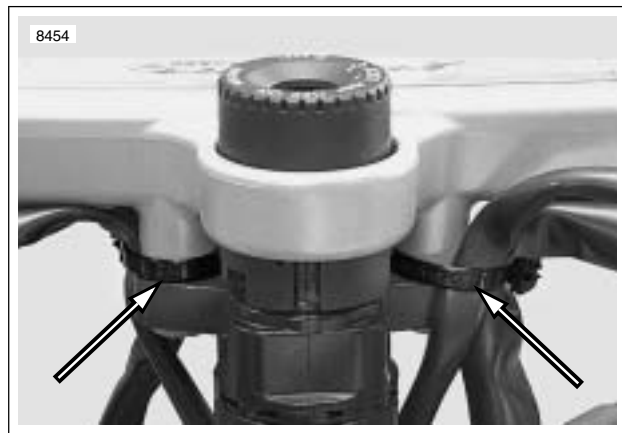
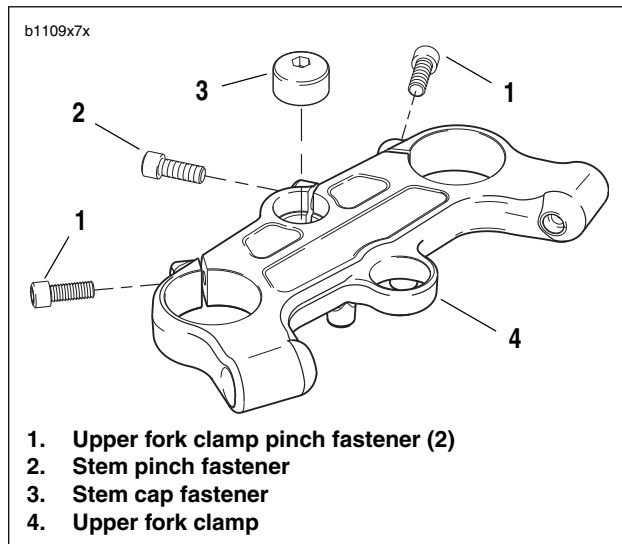
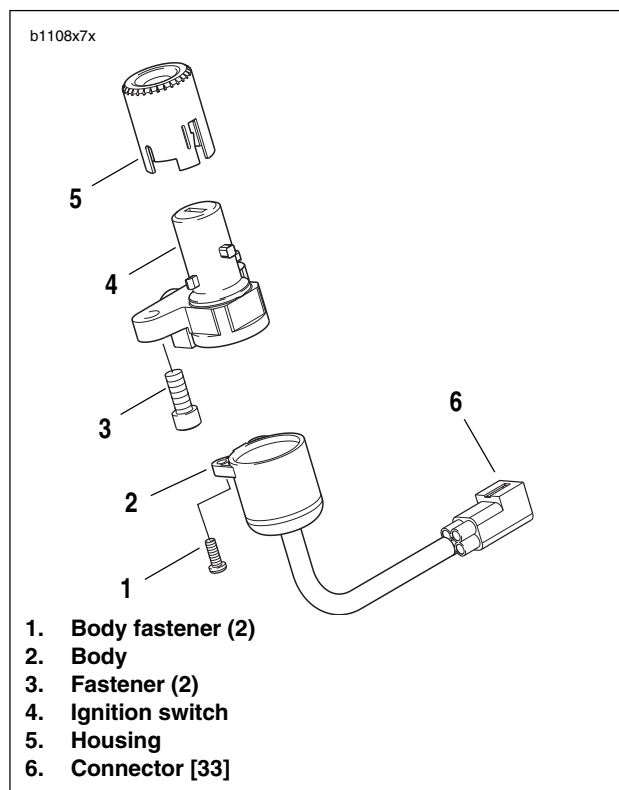
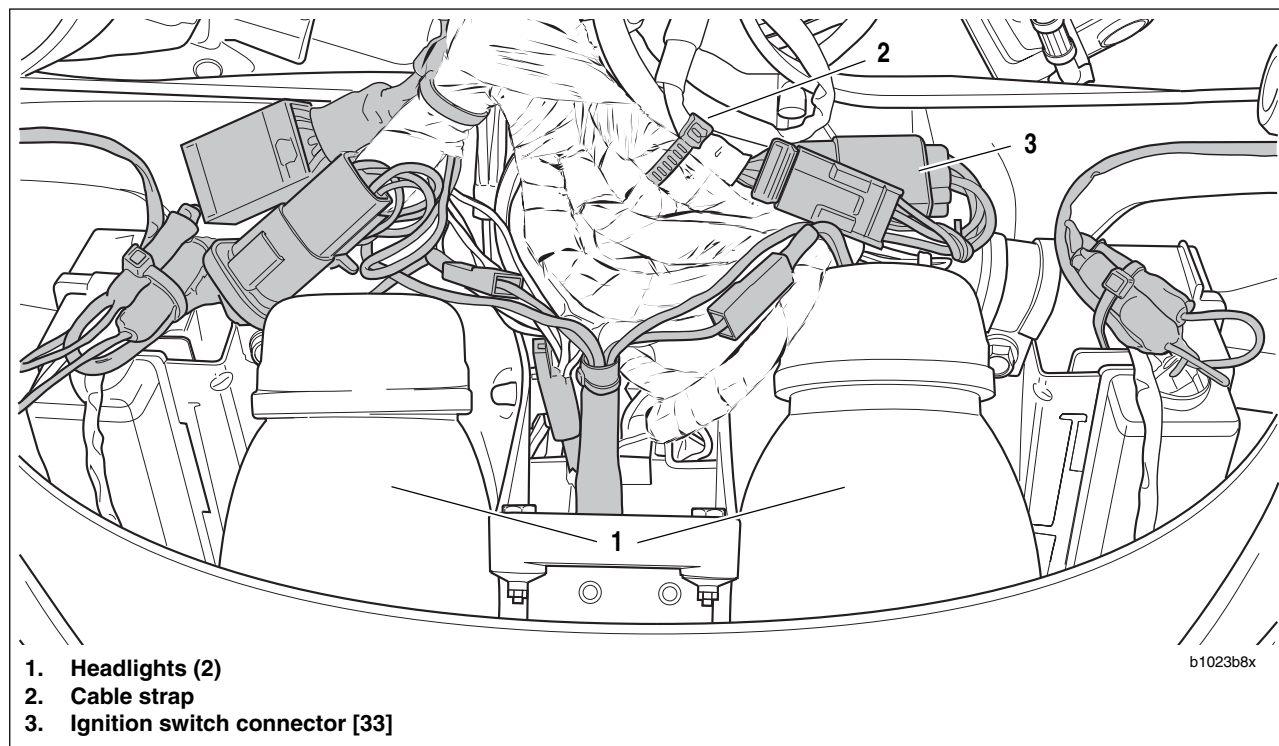

Figure 7-3. Cable Straps On Upper Fork Clamp
Figure 7-4. Upper Fork Clamp
Figure 7-5. Ignition Switch Assembly
Figure 7-6. Ignition Switch Connector (viewed from underneath fairing)
3. See Figure 7-6. Cut cable strap (2) holding ignition switch, fuse block and right handlebar switch wires.
4. Disconnect ignition switch connector [33] (3).
5. See Figure 7-3. Remove cable straps attached to the upper fork clamp.
7. See Figure 7-4. Remove steering stem pinch fastener (2).
8. Remove upper fork clamp pinch fasteners (1).
9. See Figure 7-4. Hold or brace the lower fork clamp and remove steering stem cap (3).
10. Remove the upper fork clamp (4) from forks.
11. See Figure 7-5. Use Snap-on Tamper-Resistant T45 Torx driver, Part No FTXR45E to remove ignition switch fasteners (3) securing ignition switch (4) to upper fork clamp. Slide ignition switch out of upper fork clamp.
1. See Figure 7-5. Remove ignition switch housing (5) from ignition switch (4) by prying tabs on side of housing
2. Remove ignition switch body fasteners (1). Separate ignition switch body (2) from ignition switch (4).
See Figure 7-5. In next step, be sure wide slot in ignition switch housing (5) is installed over wide boss on ignition switch (4).
1. Push ignition switch housing (5) on to ignition switch (4).
1. See Figure 7-4. From underneath upper triple clamp (4), insert ignition switch assembly into hole. The word "OFF" stamped on the switch housing should face front of vehicle.
2. See Figure 7-5. Attach ignition switch assembly to upper triple clamp using ignition switch fasteners (3). USE LOCTITE 272 (red) on fasteners. Tighten to 18-20 ft-lbs (24.4-27.1 Nm).
3. See Figure 7-4. Install steering stem cap (3). Tighten but do not torque.
- a. Apply LOCTITE 272 to upper fork clamp pinch fasteners (1).
- d. Install steering stem pinch fastener (2) applying LOCTITE 272 and tightening to 17-19 ft-lbs (23-26 Nm).
5. See Figure 7-6. Connect ignition key switch connector (3) to wiring harness. Install cable strap (2) around ignition switch, fuse block and right handlebar switch wires.
7. See Figure 7-3. Attach cable straps to upper fork clamp.